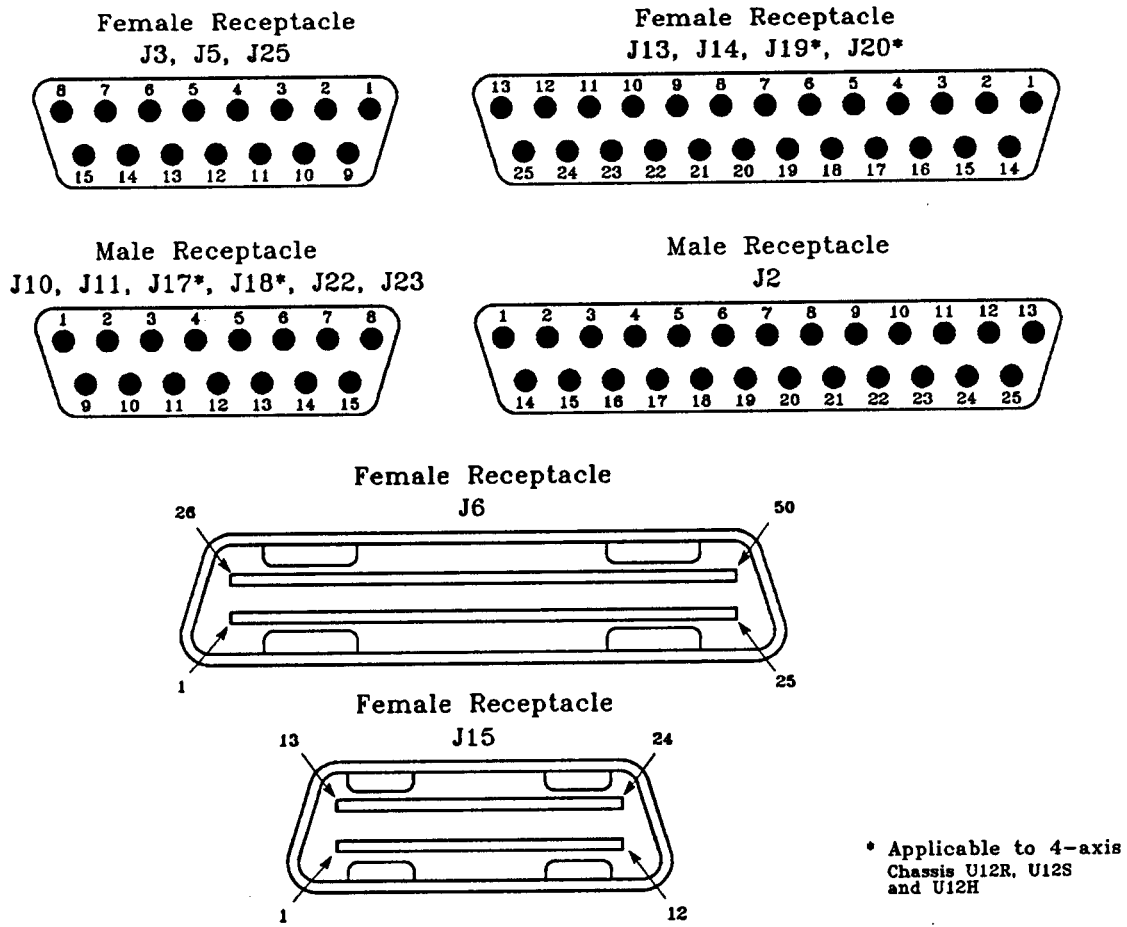

Figure 2-3: Outline of Unidex 12 External Control Connectors
J13, J14, J19*, J20*	Limit, Marker, and, for the DC Servo Control, Encoder interface connectors for the X,Y,U and V drives. (See Section 2-1 and 2-2, as well as Figure 2-3 for more information).
J10, J11, J17*, J18*	Auxiliary control connections for the X,Y,U and V drives. The use of these connectors depends on the type of Unidex 12 chassis used. (For Unidex 12 chassis U12R, U12S or U12H, see Section 2-3 and Figure 2-3 for more information.)
J3	Connection for the optional Unidex 12 Joystick Control (see Section 2-6 and Figure 2-3 for more information).
J5	The interface for the four conditional inputs (I1,I2,I3,I4) and four programmable outputs (O1,O2,O3,O4) are made at this connector (see Section 2-4 and Figure 2-3 for more information).
- J2** RS-232C serial communication port connection. (see Section 2-7 and Figure 2-3 for more information).
- J15** Optional IEEE-488 parallel communications port. (see Section 2-8 and Figure 2-3 for more information).
- J6** This connector is supplied for direct interface to Opto-22 PB8, PB16 and PB24 Opto-Isolated interface boards. (These boards are supplied by Aerotech as an option.) The input/output connections described for connectors J5 and J25, as well as other control connections, are brought out on this connector. (See Section 2-5 and Figure 2-3 of this Chapter for more information.)
- J25** This connector is capable of providing three functions. It serves as the Digital I/O Port, the Two-Digit Thumbwheel Interface Option connector or the High Speed Binary Interface Option connector (see Part IV of the *Unidex 12 Motion Controller Options Manual* and Section 2-9 and Figure 2-3 of this Chapter for more information). (See Part V of the *Unidex 12 Motion Controller Options Manual* and Section 2-10 and Figure 2-3 of this Chapter for more information.)
- J22, J23** These connectors are supplied for the Serial Output (SEO) Option for Unidex 12. These optional connectors provide opto-coupled positioning data and status output signals relative to X, Y, U and V axes. (See Section 2-11 and Figure 2-3 for more information.)
The external control connectors shown in Figures 2-1 and 2-2 are detailed in Figure 2-3. Aerotech supplies the mating connectors for each external control connector upon request.
Table 2-1: List of Mating Connectors for External Control Connectors (see Figure 2-3)
Connectors J13, J14, J19 and J20 provide for the termination of the basic control interface signals between the X,Y,U and V Stepping Motor and/or DC Servo Motor and the Unidex 12. Motor travel limits and homing signals for each axis are terminated at these receptacles, as well as Encoder signals for DC Motor control. The pinouts are as follows (see Figure 2-3 for receptacle outline).